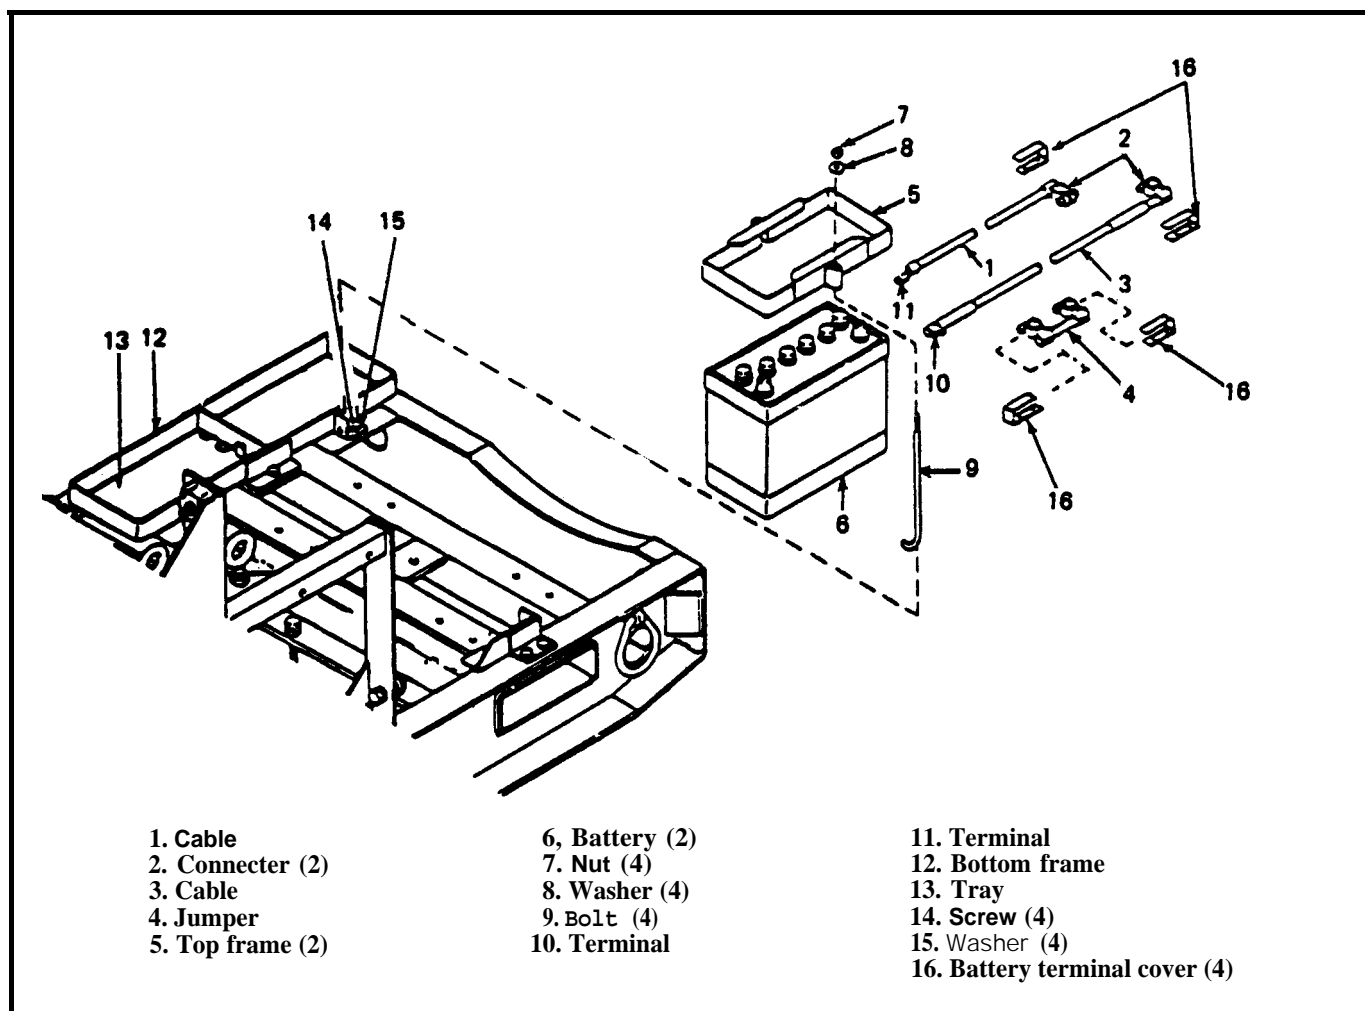

Figure 3-2. Battery Assembly
- a. Inspect (see figure 3-2). On generators equipped with acoustic suppression kit (ASK), remove batteries access door for inspection.
- (1) Inspect battery cable terminal connectors (2), (10) and (11) for corrosion, deterioration, or physical damage. Inspect battery terminal covers (16) for proper installation and physical condition. Replace if cracked, split or torn.
- (2) Inspect cables (1), (3), and (4) for breaks, damage and deteriorated insulation.
(3) Inspect battery top frames (5), bottom frame (12), and tray (13) for corrosion or physical damage. Check to see that frame is held securely in place and that all attaching hardware, nut (7), washer, (8), screw (14), washer (15), and bolt (9), is securely in place. Check that frame is free of electrolyte.
(4) Inspect battery (6) for leaks or cracks. Check top of battery and battery caps for cleanliness. Check battery electrolyte (liquid) level. Level should be